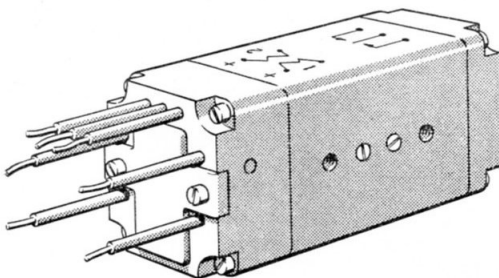

Fig. 1. Miniature moving coil relay, Type R350B
2. The relay (*fig. 1*) incorporates a permanent magnet and a coil assembly, contained in a non-magnetic body. The coil assembly consists of two separate coils wound in the same direction on a former. A pivot pin at